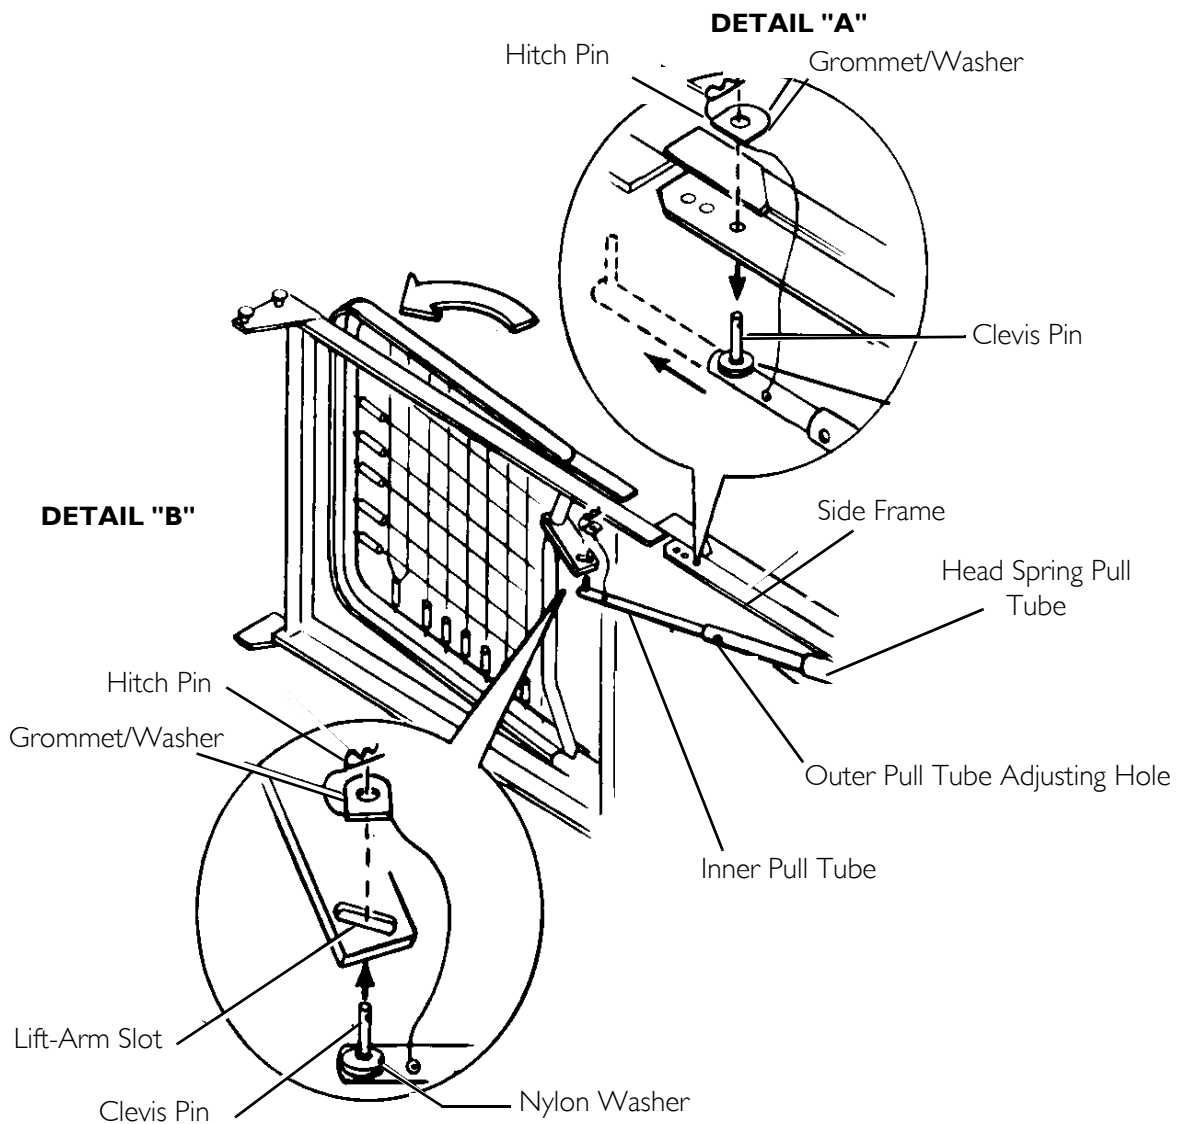

FIGURE 4.6 Adjusting and Reconnecting the Head Section Pull Tube
NOTE: For this procedure, refer to FIGURE 4.6 on page 25.
1. To disconnect the head pull tube assembly from the side frame of the foot spring remove the hitch pin, grommet/washer from the clevis pin. (Refer to FIGURE 4.6, Detail "A".)
3. Connect the pull tube end assembly to the lift arm of the head spring as follows (Refer to FIGURE 4.6, Detail "B"):